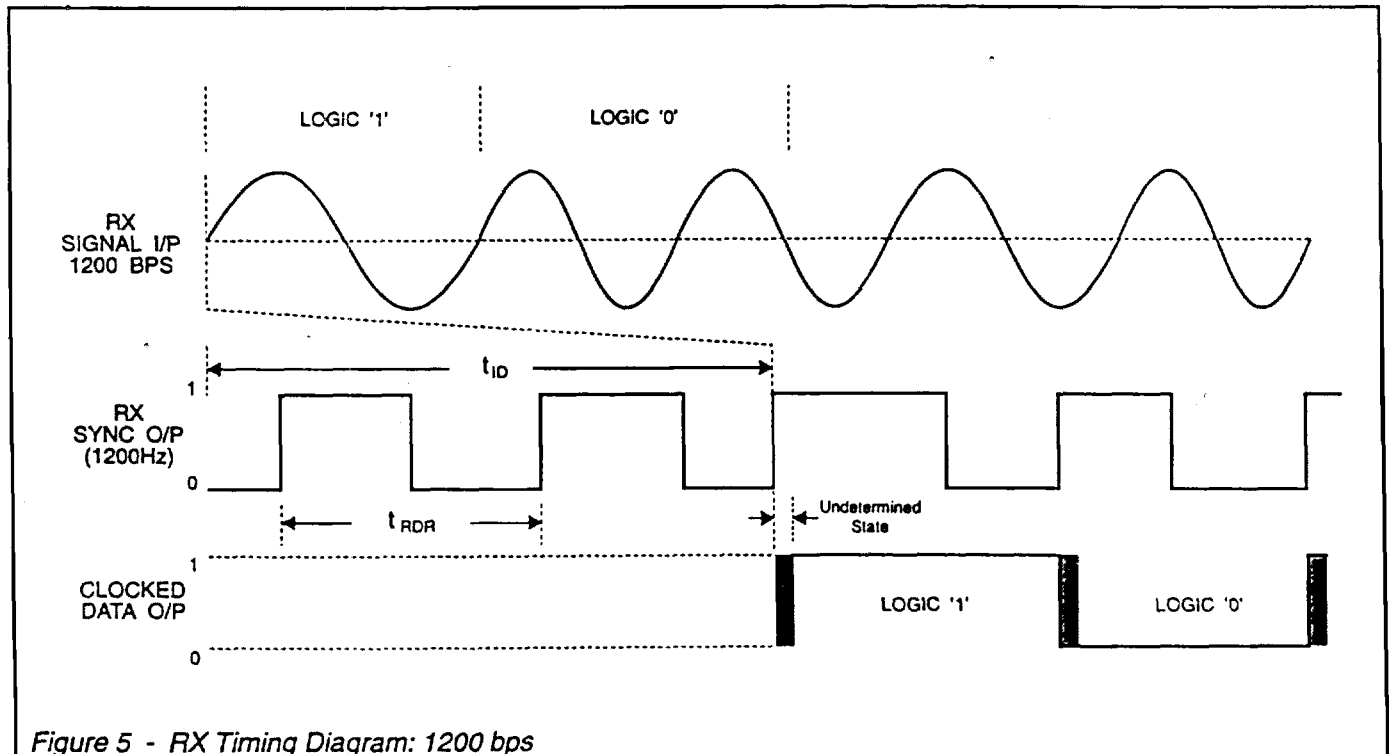

Figure 5 - RX Timing Diagram: 1200 bps
3. See Figure 5 (variation of BER with Input Signal Level).